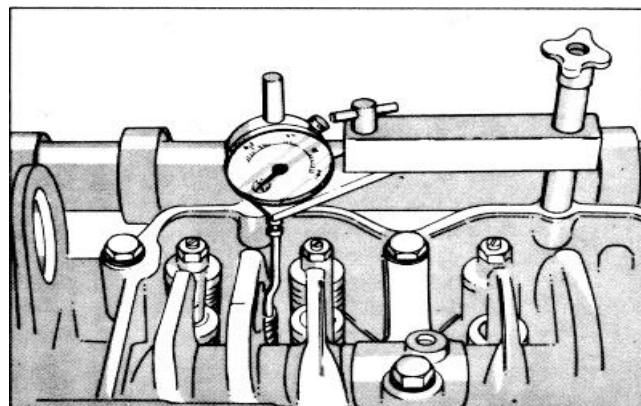

Fig. 14-72 (OM 1051 L). Check The Travel Of The Injector Plunger.
- Use the Part No. 3375842 Injector Adjustment Kit to check the travel of the injector plunger. Install the dial indicator and support so that the extension for the dial indicator is against the injector plunger, Fig. 14-72. Make sure that the extension is correctly installed into the indicator stem and that it does not touch the rocker lever.